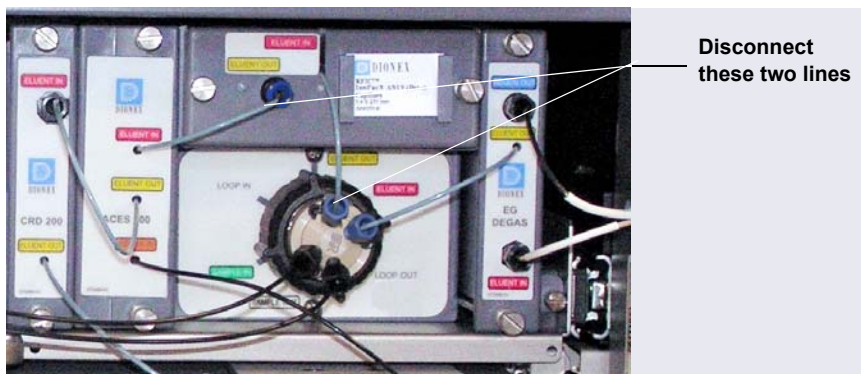

Figure 9-42. Disconnect Capillary Cartridge Eluent Lines
3. Disconnect the line from the **ELUENT OUT** port of the injection valve and the line from the **ELUENT OUT** fitting on the column cartridge (see Figure 9-42).
18. Wait until liquid is flowing out of the **Eluent Out** port (3) of the injection valve.
19. Connect the tubing from the **Eluent In** port of the column cartridge to the **Eluent Out** port (3) of the injection valve.
21. Reconnect the line to the **Eluent Out** fitting on the column cartridge that was disconnected in Step 3 (see Figure 9-42).